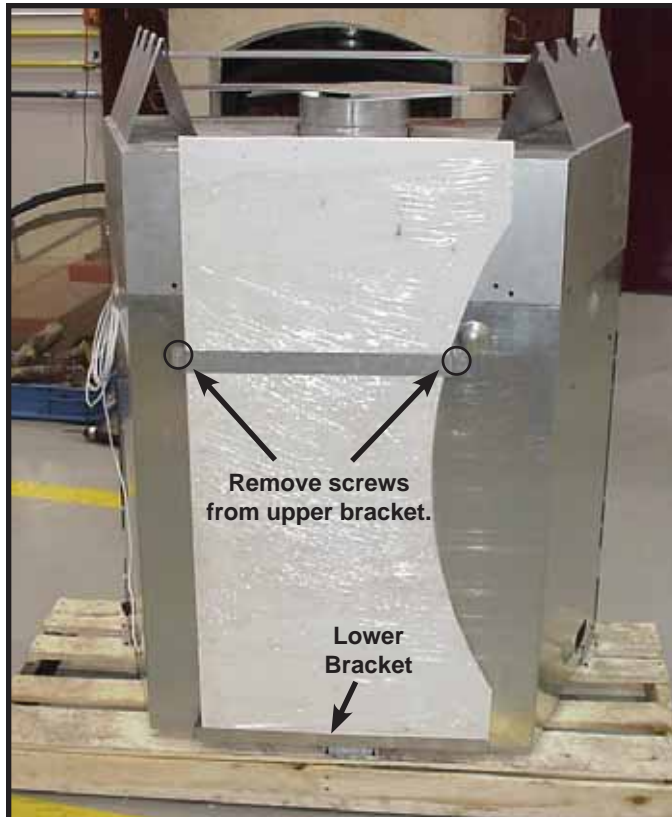

Figure 9.1 Non-Combustible Facing Material Assembly
The non-combustible assembly is located on the back of appliance (see Figure 9.1).
- Remove and save two screws from upper brackets (see Figure 9.1).
- Remove and save three screws from lower bracket (see Figure 9.1).